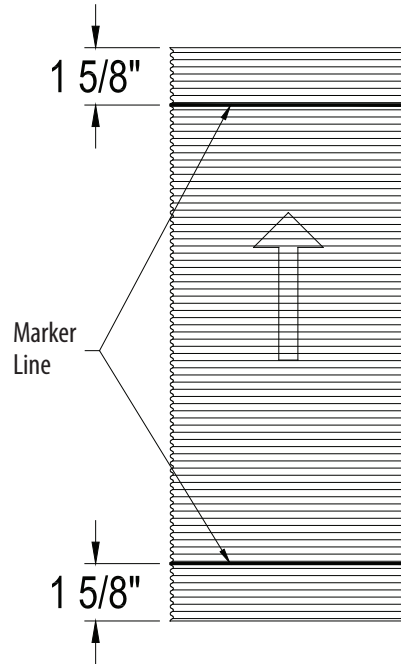

Figure 16 - Secure Seal Flex marker line
- 1.1. If cutting the liner on the field is required, make sure the cut is square. Make a marker line on both ends of the liner at 1 5/8" from each end. That mark will act as a reference point when the adapters are fully seated onto the flex liner. (Figure 16).